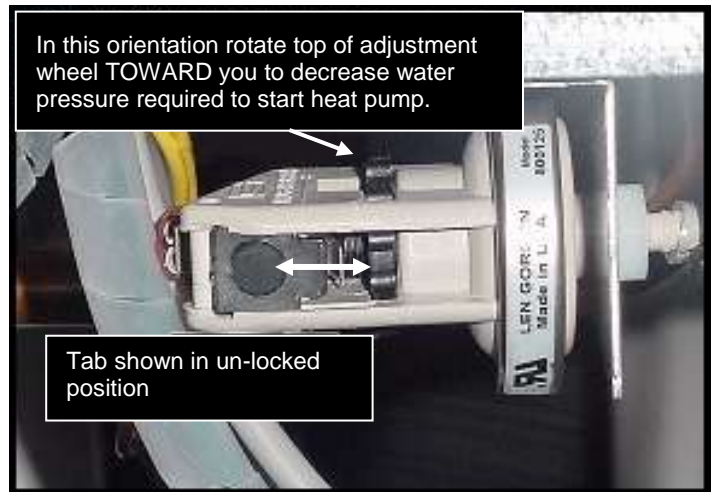
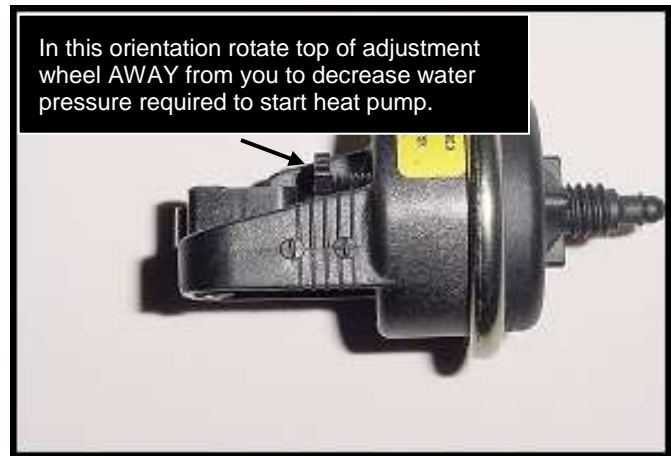

Figure 12
Figure 13
- Identify type of switch to adjust (“Len Gordon” or “TecMark”). To determine which brand pressure switch is installed compare water pressure switch in heat see to Figure 12 and Figure 13. Follow the adjustment procedure for the appropriate switch.
- 1) Locate black rectangular plastic tab, located on forward-facing side of the switch. See Figure 12. The black rectangle is a wheel lock tab.
- 1) TecMark switches do not have an adjustment wheel lock. See Figure 13.